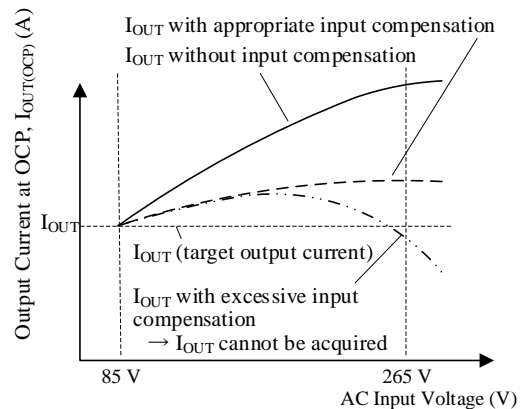
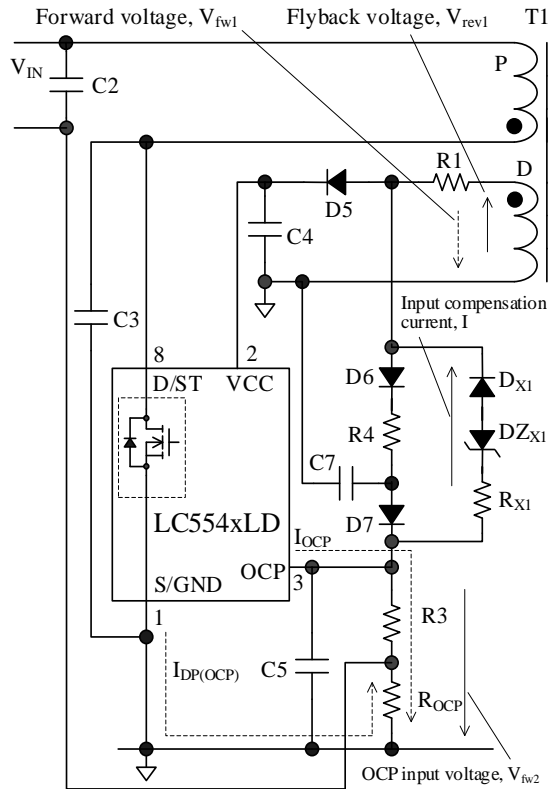
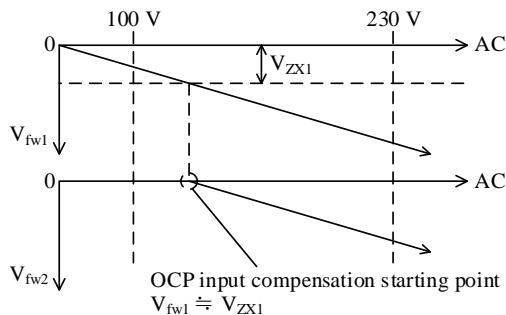

Figure 8-26. AC Input Voltage vs. Output Current at OCP (with or without OCP Input Compensation Function)
Figure 8-27. OCP Input Compensation Circuit
Figure 8-28. V_{fw1} and V_{fw2} vs. AC Input Voltages
Figure 8-26 shows the relationship between AC input voltage and the output current at OCP activation, $I_{OUT(OCP)}$, with the OCP input compensation function being activated or deactivated. When the IC without the input compensation, $I_{OUT(OCP)}$ increases as the AC input voltage increases (see “ I_{OUT} without input compensation” in Figure 8-26). To regulate $I_{OUT(OCP)}$ at the maximum AC input voltage, add the OCP input compensation circuit (D_{X1} , DZ_{X1} , R_{X1}) as shown in Figure 8-27. The values of these components should be adjusted so that $I_{OUT(OCP)}$ at the maximum AC input voltage exceeds the target output current, I_{OUT} (see “ I_{OUT} with appropriate input compensation” in Figure 8-26).
Figure 8-27 shows the OCP input compensation circuit, and Figure 8-28 shows the V_{fw1} and V_{fw2} voltages according to the AC input voltage. The compensation amount of V_{OCP} depends on values of the input compensation current, I , R_{X1} , $R3$, and R_{OCP} . The input compensation current, I , is calculated by the following equation:
For other component numbers, such as resistors, see Figure 8-27.
$I_{DP(OCP)'}$ in the maximum AC input voltage should be set to the peak drain current where the output current is equal to “ I_{OUT} with appropriate input compensation” in Figure 8-26.
- 4) In the maximum AC input voltage (265 VAC) condition, measure the drain current, $I_{DP(OCp)}$ ', when the output current, $I_{OUT(OCp)}$, becomes the "I_{OUT} with appropriate input compensation" in Figure 8-26.
- 6) Confirm that the output current during OCP operation, $I_{OUT(OCp)}$, is similar to "I_{OUT} with appropriate input compensation" in Figure 8-26, in an actual operation throughout AC input voltage ranges. If $I_{OUT(OCp)}$ is not appropriate, be sure to adjust the constants of DZ_{X1} and R_{X1} by changing the compensation startup voltage, $V_{IN(OCp_ST)}$.